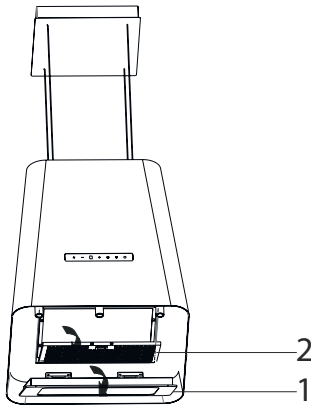

Fig. 7: Removing the metal oil filters
1. ➤ Open the metal cover of the hood (Fig. 7/1).
2. ➤ Open the lock of the metal oil filter (Fig. 7/2) and ensure that it will not fall.
3. ➤ Tilt the metal oil filter forward and lift it out (Fig. 7/2).